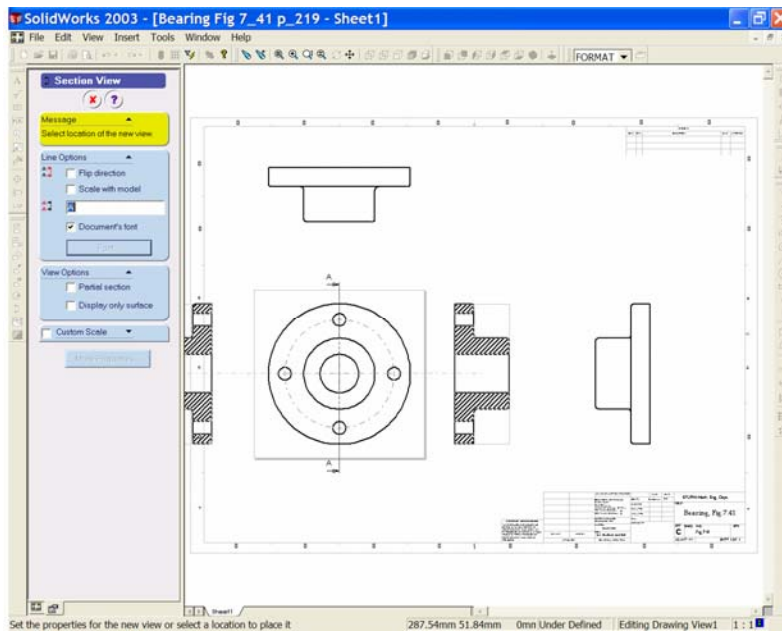

Figure 7
4. **Save as** 'Bearing Fig 7_41'.
Left click to check the box and observe the result on screen. When you have the desired Section View left click once in the graphics area to place the view (with tangent edges removed). See Figure 7.